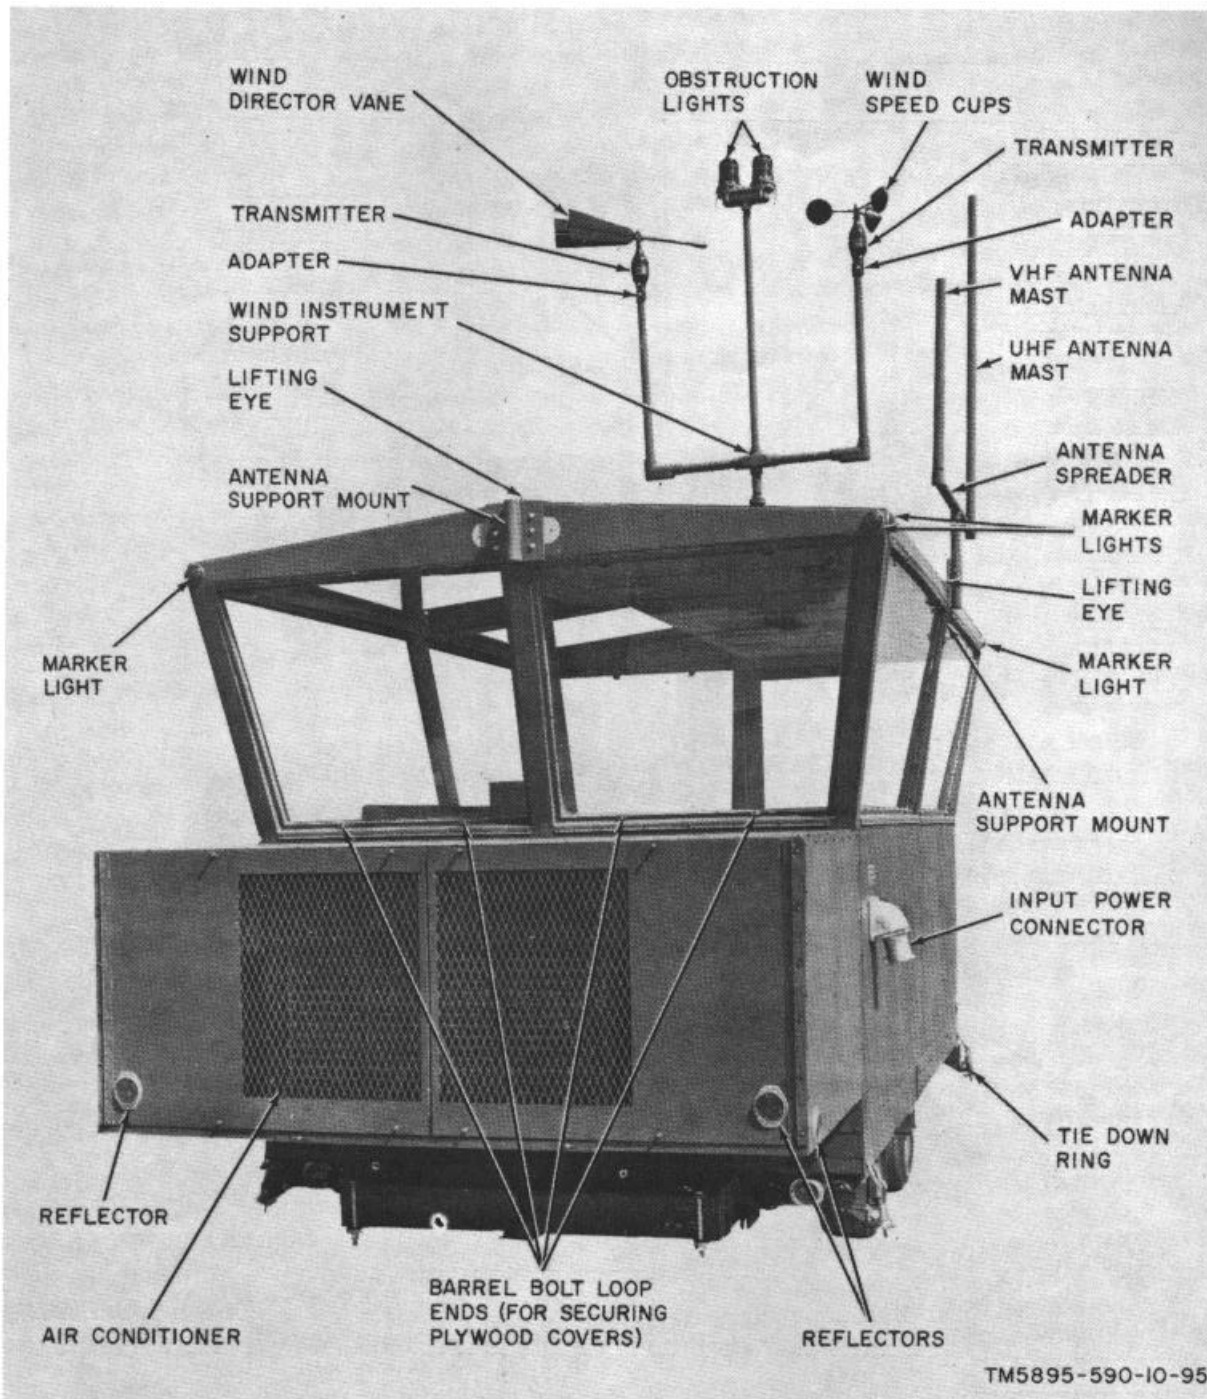

Figure 1-21. Rear oblique view of control tower cab mounted on trailer, AN/FSQ-75(V)3 only.
(1) *Antenna Supports.* Four antenna supports are provided with each control tower cab. Figure 1-21 depicts a typical antenna support. The antenna spreaders are fabricated from 1 1/4-inch standard galvanized pipe and two 1 1/4-inch pipe couplings. The base is 16 inches high and the antenna spreader is 50 inches in width (centered through the pipe couplings). A 2 1/2-foot length of 1 1/4-inch pipe, threaded on both ends, screws into one of the pipe couplings on the antenna spreader to become the vhf antenna mast. A 5-foot